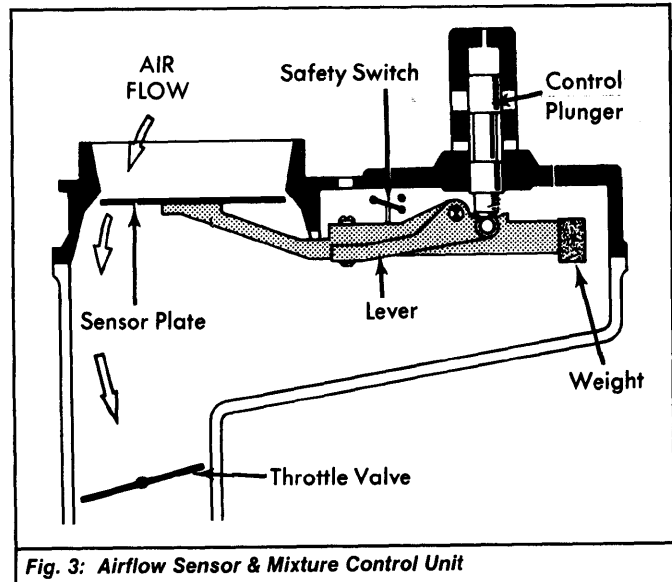

Fig. 3: Airflow Sensor & Mixture Control Unit
2) Even resistance should be felt over entire range of travel. Release sensor plate suddenly. No binding should be evident. Sensor plate should quickly return and lever should follow more slowly. See Fig. 3.